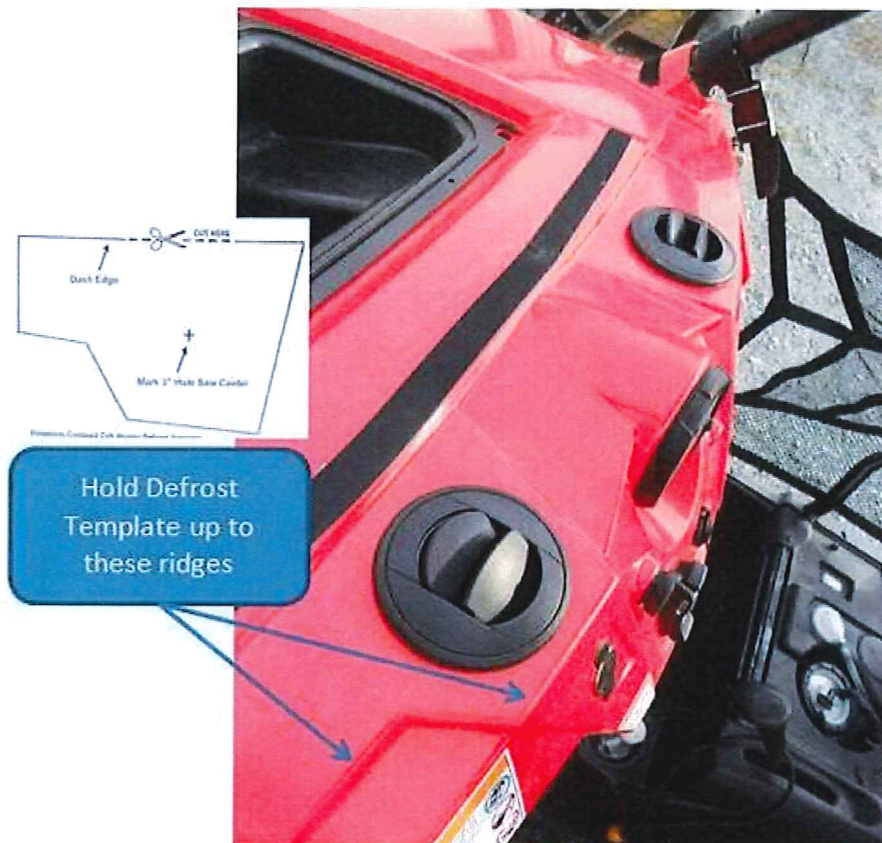

Figure 5
1. Using the Defrost Kit Dash Template (Template 2) and the supplied 3" Hole Saw and Pilot Bit, drill holes for the Vents as shown in Figure 5.